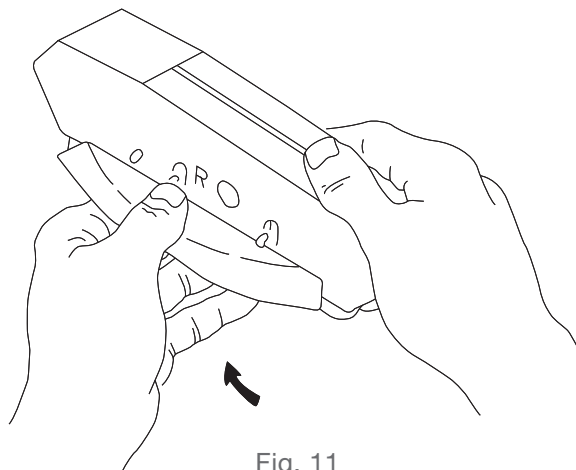

Fig. 11
- B. Remove the old wings by bending the wings up toward the sides of the cleaner, and lift them off their hooks (see Fig. 11). If any of the wing hooks are broken, take the StarzTruck automatic pool cleaner to your dealer for pod replacement as the cleaner will not function properly if the wings are not properly attached.